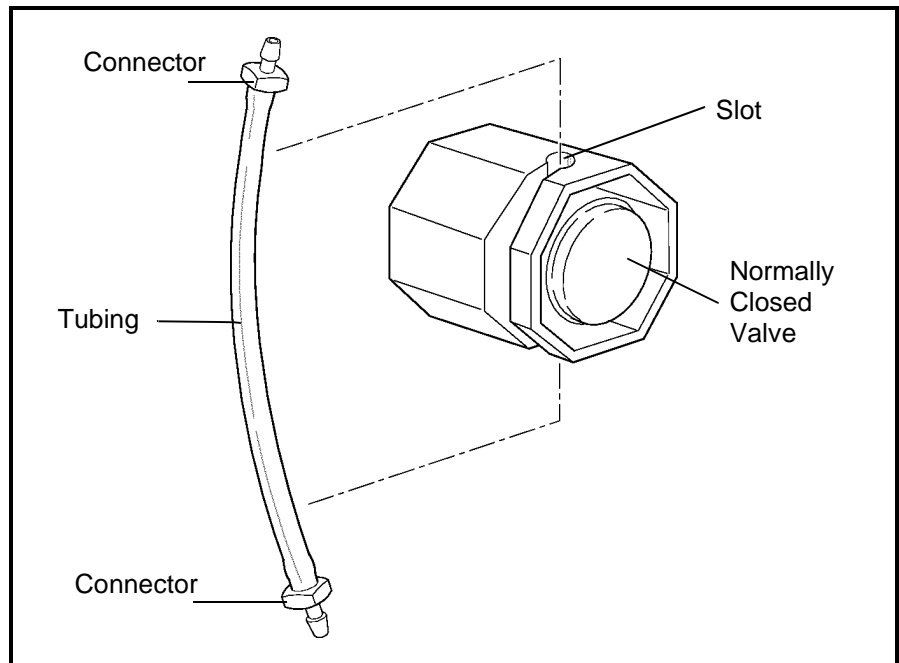

Figure 9.18: Tubing in Normally Closed Valve
8. Pull the tubing from the connectors on either side as shown in Figure 9.18.